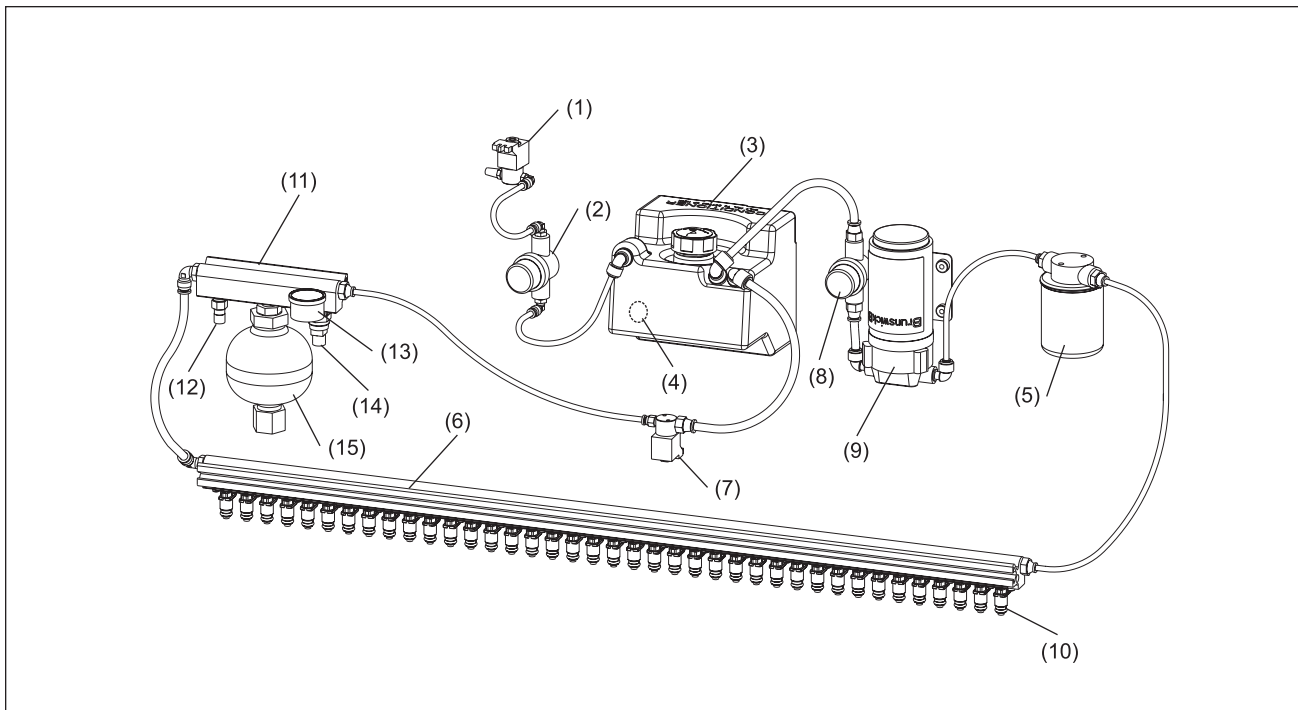

Figure 2-6. Conditioning System
1. 39 **conditioner injectors** mounted on a pressurized injector rail assembly apply conditioner to the lane surface according to the selected pattern. Refer to Figure 2-6.